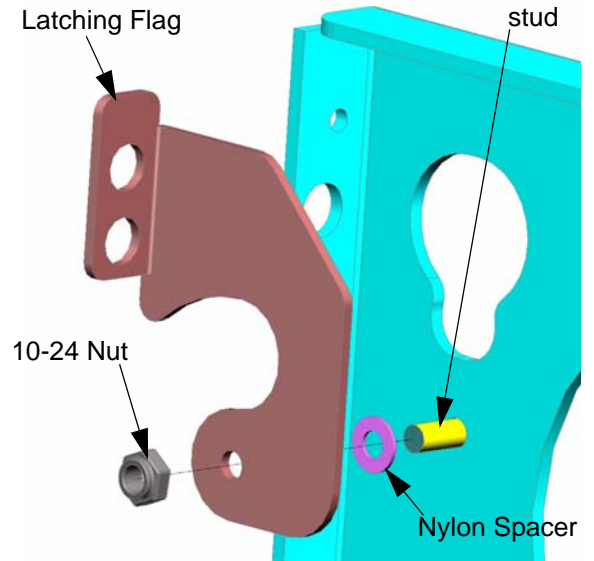

Figure 1. Install Flag
1. Install the Nylon spacer on the stud in the corner of the face plate (see Figure 1).